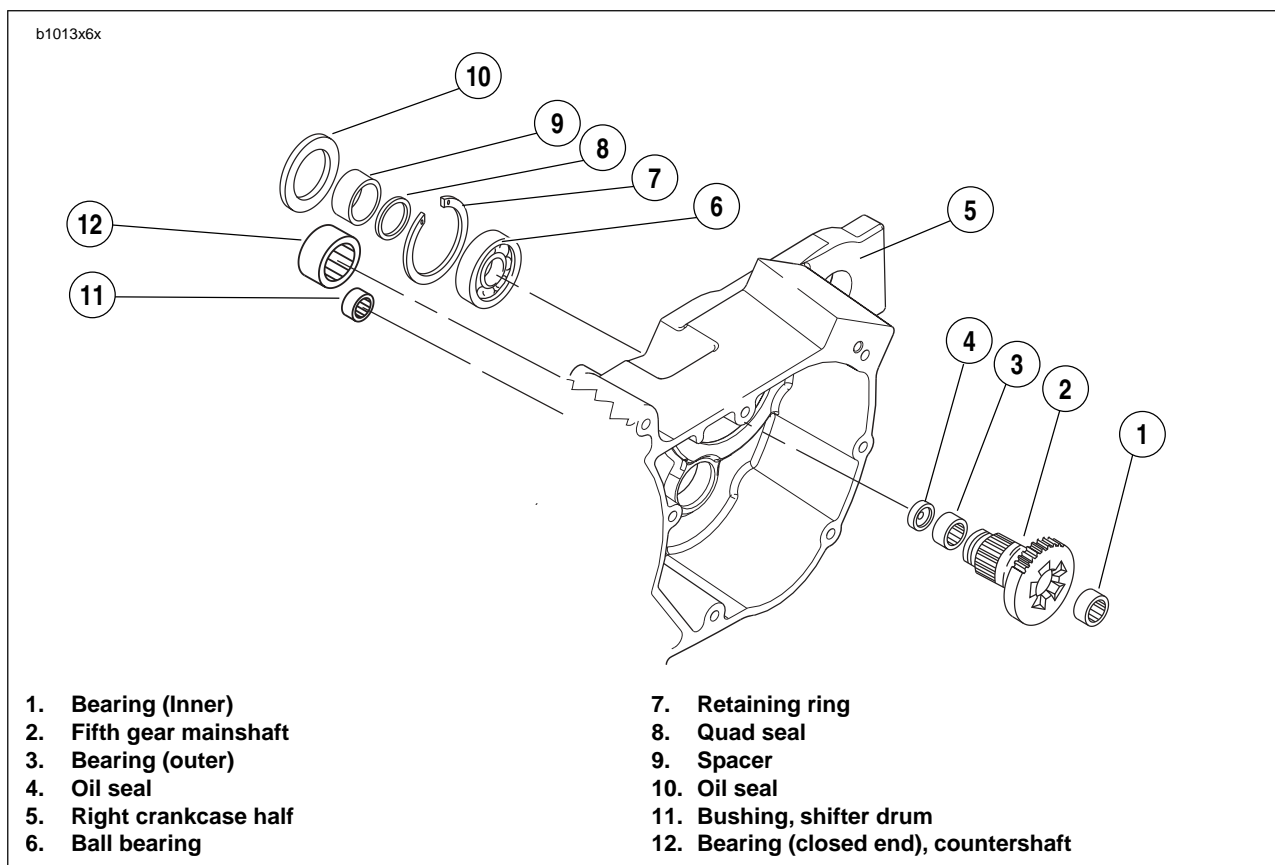

Figure 6-69. Transmission Assembly Right Crankcase Half
4. See Figure 6-69. Place **new** quad ring over threaded end of fifth gear, and position next to the gear taper. Install spacer over threaded end of fifth gear with chamfered end toward quad ring. Slide spacer up against bearing.
See Figure 6-69. Refer to *Transmission assembly right crankcase half*, for location of items discussed on this page.
2. See Figure 6-69. Remove main drive 5th gear. Use MAIN DRIVE GEAR REMOVER AND INSTALLER (Part No. HD-35316A). See 6.9 MAIN DRIVE GEAR.
2. See Figure 6-69. From the outside of the case place the needle bearing open end first next to the bearing bore. Hold the driver squarely against the closed end of the bearing and tap the bearing into place. The bearing is properly positioned when it is driven inward flush or 0.030 in. (0.762 mm) below the outside surface of the case.
4. See Figure 6-69. The shifter drum bushing (11) is a press fit in the right crankcase half. Inspect the bushing against the corresponding end of the shifter drum for proper fit and wear.